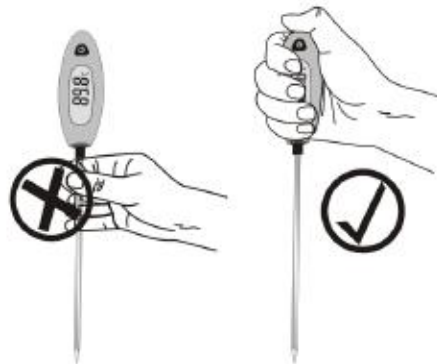

Figure 4
- ▶ Use this product by correct method ( as shown in Figure 4), While measuring the high-temperature object don't touch the probe by hand so as to avoid scalding